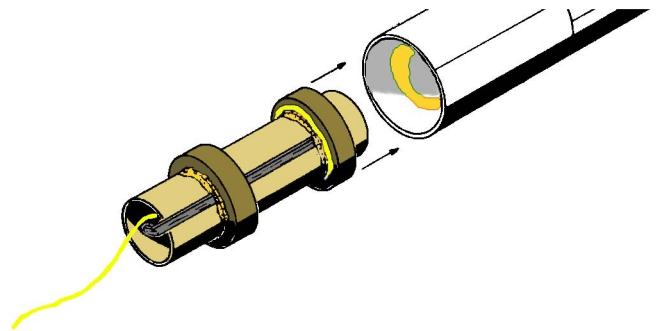

Figure 7
- Step 9** Push the Kevlar thread down through the center of the mount and pull the excess out of the way. As shown in Fig.7, test fit the mount into the body tube to check for swelling of the rings. If the fit is tight, sand the outer diameter of the rings until the mount slides easily into the tube. Push the engine mount into the body tube until the bottom edge of the motor tube is even with the bottom edge of the body tube.